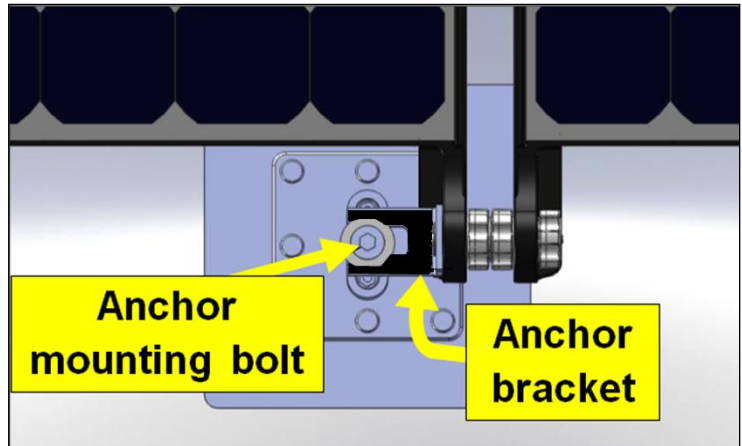

Fig. 42
To attach the anchor bracket to the anchor itself, use the anchor mounting bolt supplied with the anchor. Tighten the anchor mounting bolt to 240 in-lbs (27 N-m); and then torque the connector to 150 in-lbs (17 N-m) (Fig. 42).
**Note.** Anchor appearance may vary. Figure 42 is an example.